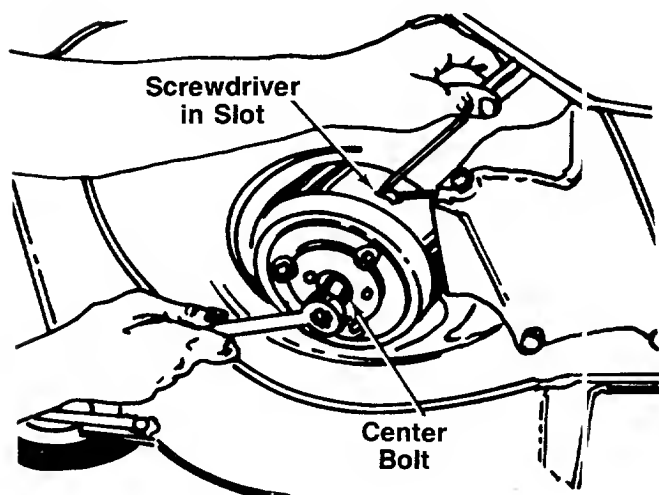

FIGURE 27.
- a. Insert a screwdriver into the slot provided in the blade brake/clutch housing where the control cable enters housing. See figure 27.